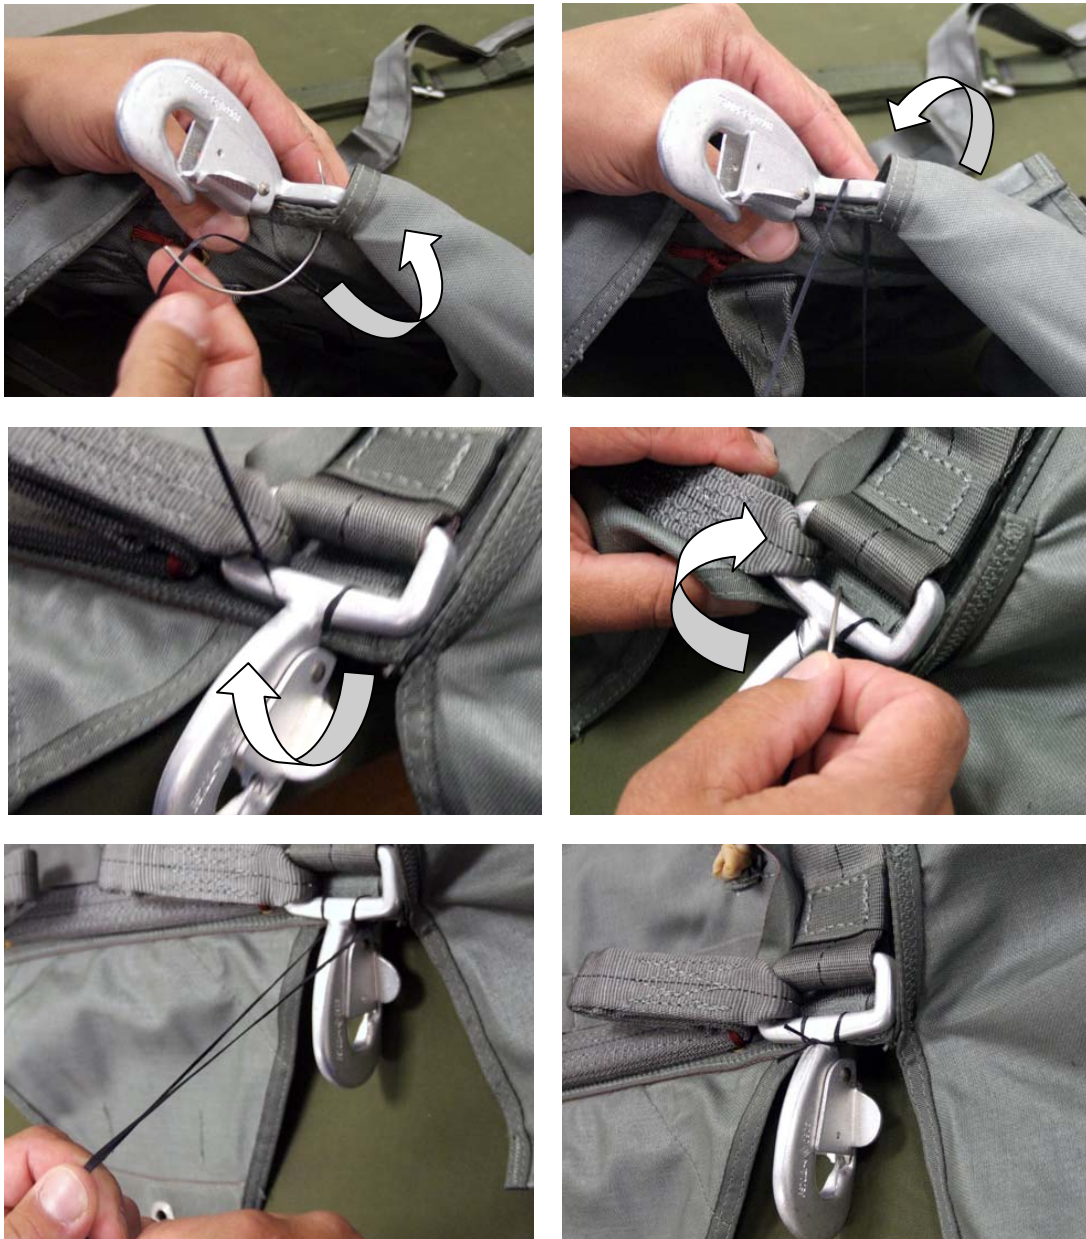

Figure 66. Securing Connector Snaps To Pack Tray.
7. Use a tacking needle with one single turn of lacing tape to attach the connector snap to the pack tray. Push the tacking needle just below the binding tape, through the back of the pack tray, to the front in the middle of the connector snap (Figure 66).